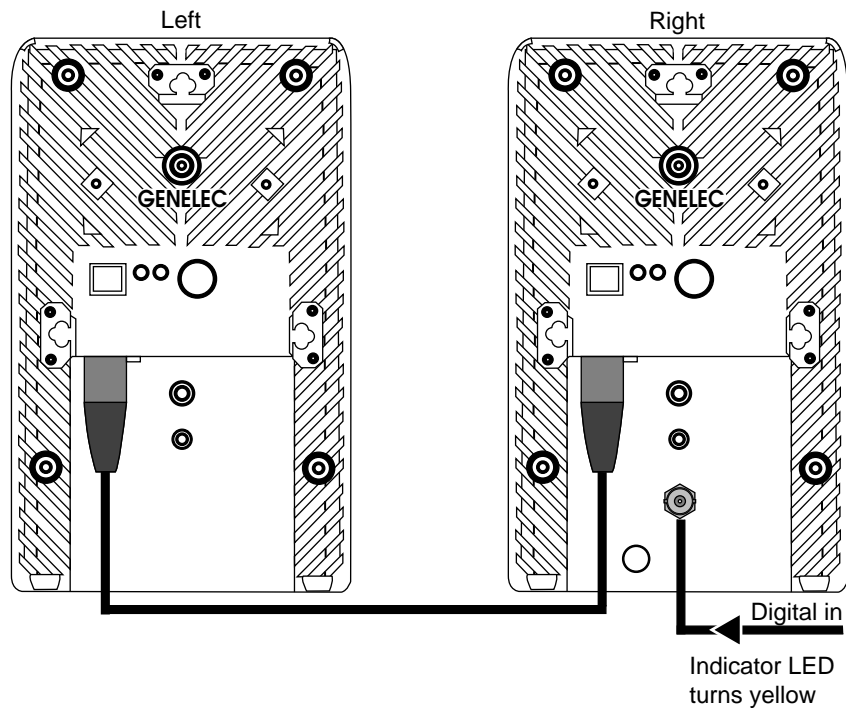

Figure 3-16 Speaker Pair Connection
3. Connect the other end of the BNC audio cable to the back of the right speaker, see Figure 3-16.